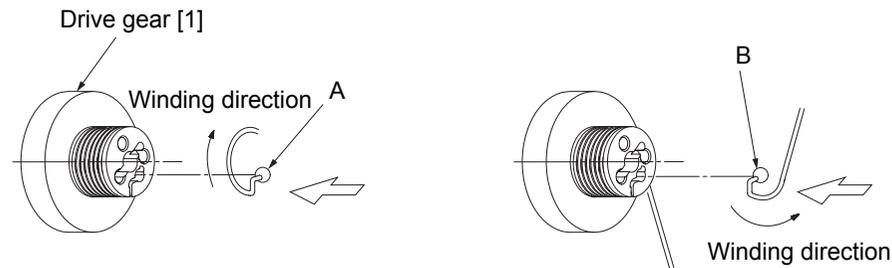
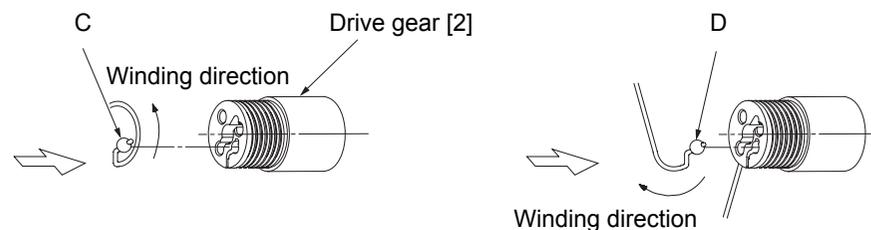

Fig. 6-34. Winding the wire (fork sensor plate) U/L around the drive gear [1]
Fig. 6-35. Winding the wire (fork sensor plate) U/L around the drive gear [2]
3. Push the steel ball A of the wire (fork sensor plate) in the groove of the drive gear [1] securely. Wind the wire five turns as shown in Fig. 6-34. (Perform the same operation for the steel ball C and the drive gear [2] as shown in Fig. 6-35.)
4. Push the steel ball B of the wire (fork sensor plate) in the groove of the drive gear [1] securely. Wind the wire a half turn as shown in Fig. 6-34. (Perform the same operation for the steel ball D and the drive gear [2] as shown in Fig. 6-35.)